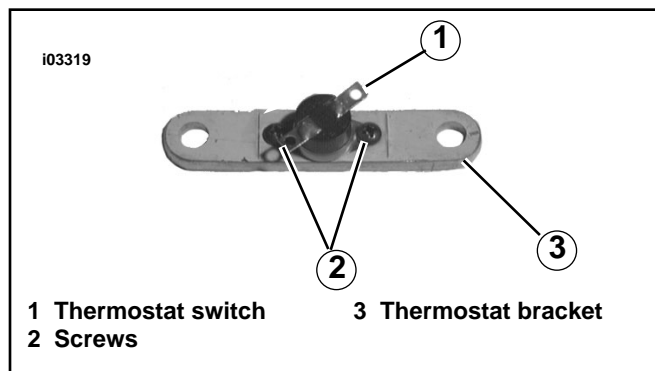

Figure 4. Install Switch to Thermostat Bracket
9. See Figure 4. Install thermostat switch (part number Y0052.K) to thermostat bracket (part number R0052.K) using screws (part number C0217.K) and tighten to 12.4-15.0 in-lbs (1.4-1.7 Nm).